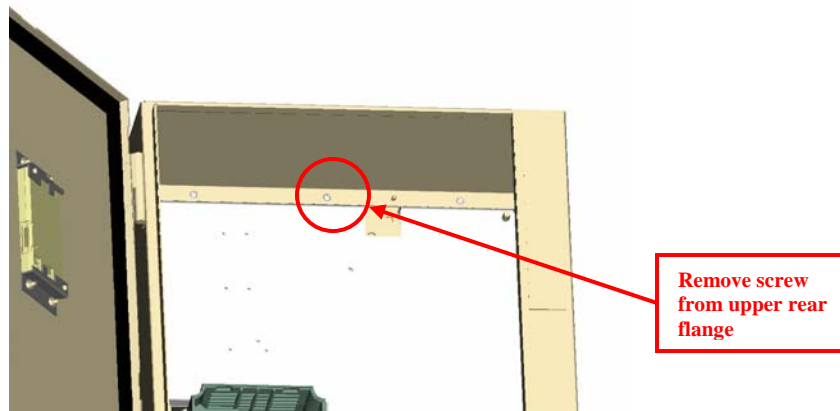
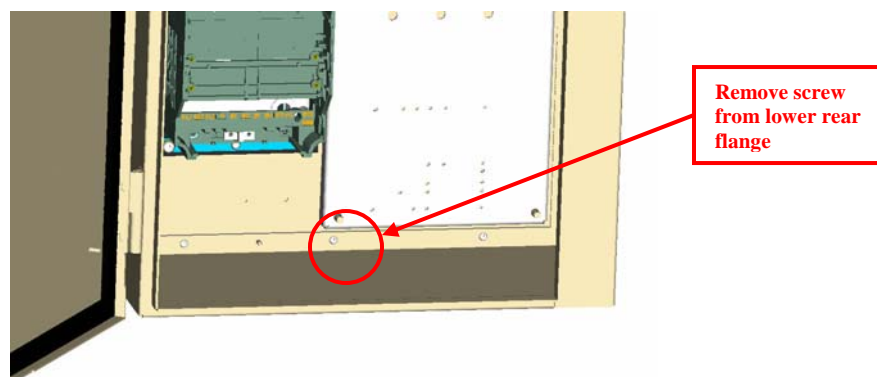

Figure 3a – Upper screw Removal (Step 4)
Figure 3b – Lower screw Removal (Step 4)
Refer to Figures 3a and 3b – Removal of mounting screws
- (3) Open enclosure using (2) quarter turn latches on door of enclosure
- (4) Locate the screws that attach the enclosure to the back panel. Three screws exist at the top of the enclosure (Figure 3a), and three at the bottom of the enclosure (Figure 3b). Remove only the center screw from both the top and bottom of the enclosure, as shown below. These screws will no longer be used once the heatsink filter kit is installed.